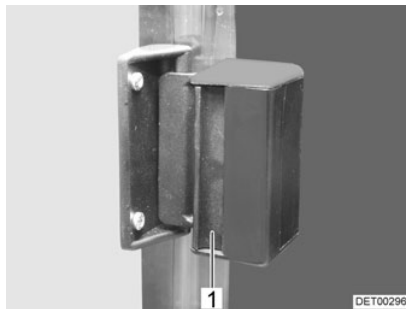

Fig. 22 Sliding window
- Press handle (Fig. 22,1) and push or pull it forward or backward at the same time.